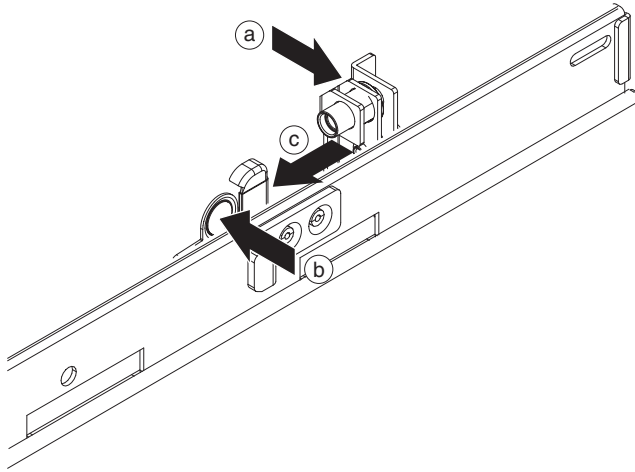

Figure 5. Rear rail attaching to the rack frame
2. Insert the left rear of the rail into the rack frame. You can adjust the length of the rail by sliding the rear mounting mechanism back and forth to align it to your rack. When you release the locking mechanism, the whole mounting mechanism then slides on the rail, as shown in Figure 5 on page 16.